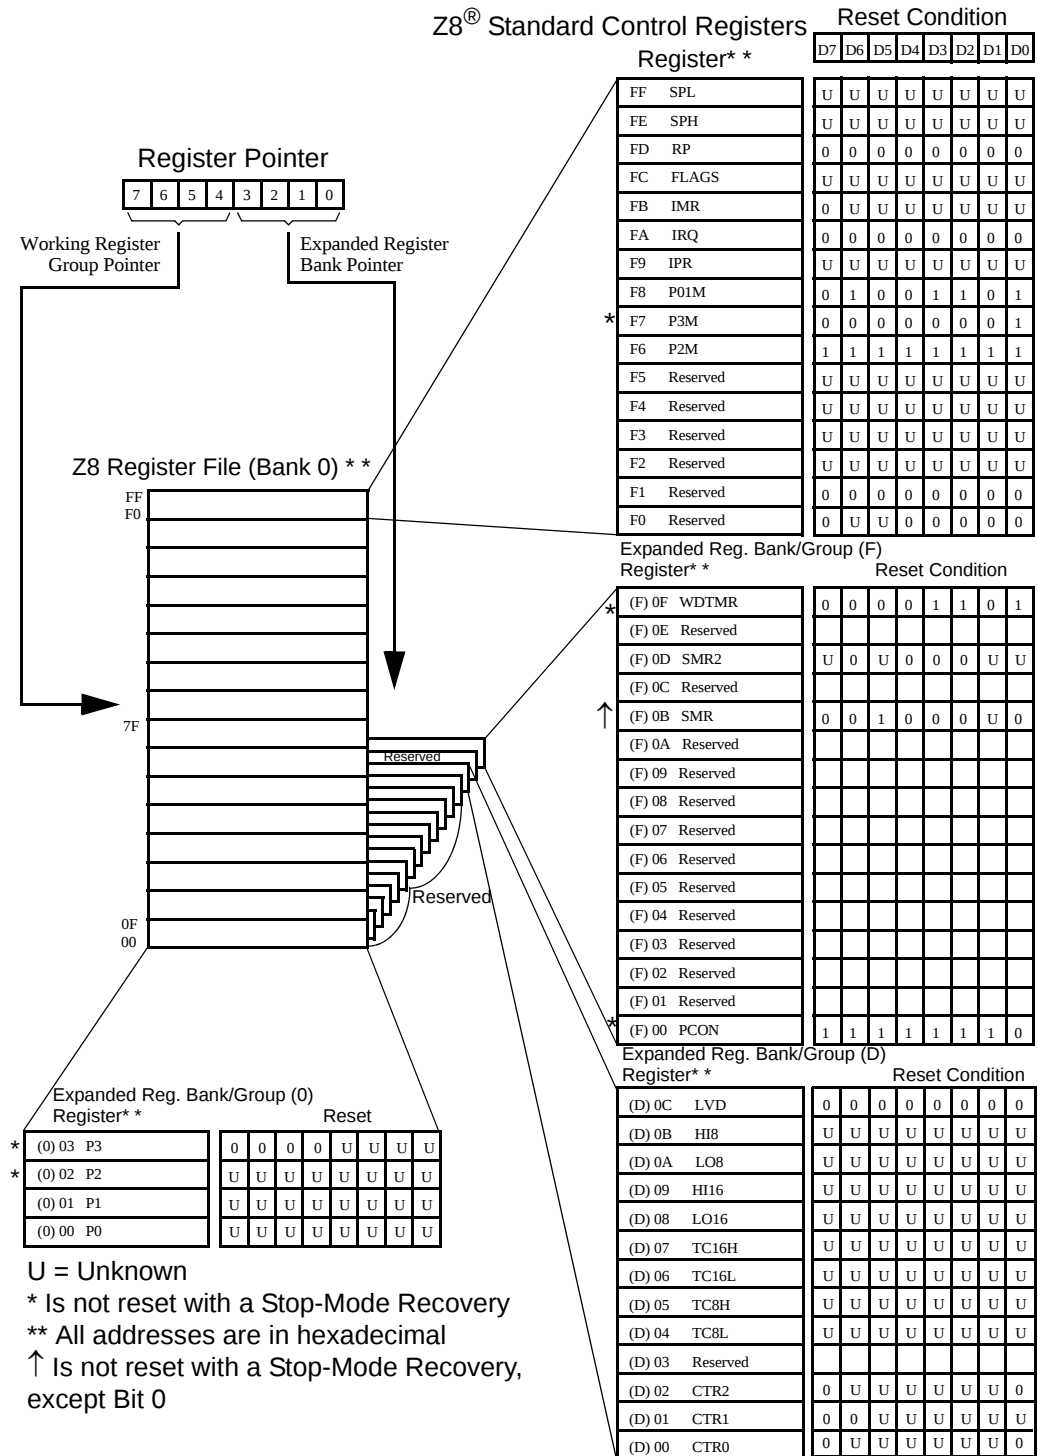

Figure 11. Expanded Register File Architecture
- **Note:** An expanded register bank is also referred to as an expanded register group (see Figure 11).
Example: Z86L81/86/98: (See Figure 11 on page 24)